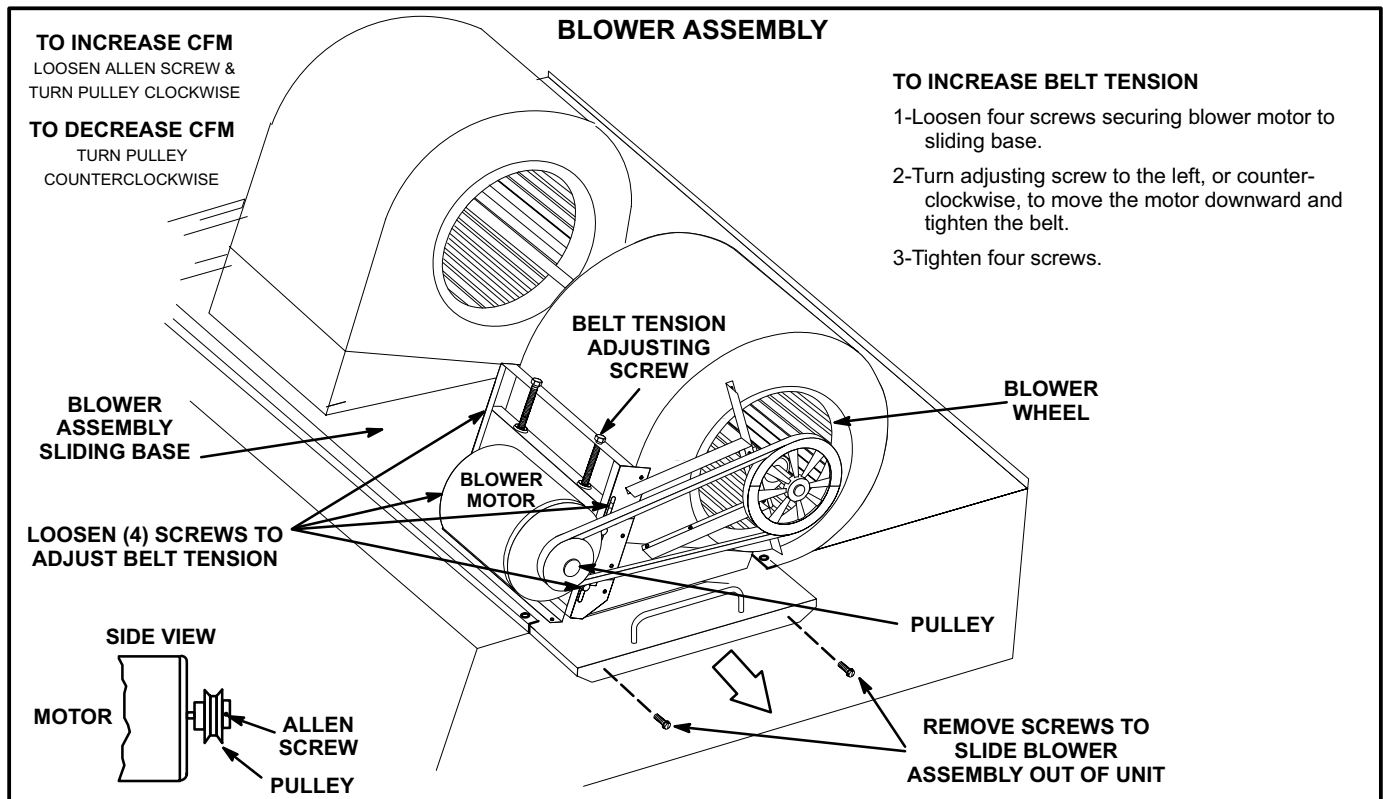

FIGURE 9
The blower assembly is secured to a sliding base which allows the entire assembly to be pulled out of the unit. See figure 9.
- 4- The blower RPM can be adjusted at the motor pulley. Loosen Allen screw and turn adjustable pulley clockwise to increase RPM. Turn counterclockwise to decrease RPM. See figure 9. Tighten Allen screw after adjusting. Do not exceed minimum and maximum number of pulley turns as shown in table 3.
- 1- Loosen four bolts securing motor base to mounting frame. See figure 9.